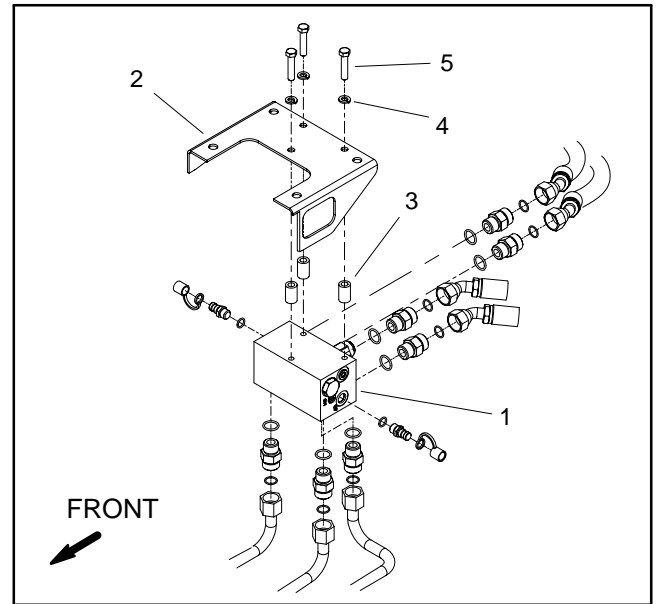

Figure 10
7. To allow removal of the rear axle pivot pin, remove the three (3) cap screws, lock washers and spacers that secure CrossTrax™ AWD control manifold to frame (Fig. 10). Lower and support manifold taking care to not damage hydraulic tubes.
8. Remove the jam nut (item 10) and thrust washer (item 9) that secure the axle pivot pin (item 6) to the frame.
10. Pull the axle pivot pin from frame and rear axle. This will release the rear axle and thrust washers (item 7) from the frame.
1. Position the rear axle assembly to the frame. Install thrust washer (item 7) between each side of axle and frame. Slide pivot pin through frame, thrust washers and axle. Make sure that roll pin on pivot pin is positioned in frame reliefs.
2. Install thrust washer (item 9) and jam nut (item 10) onto pivot pin. Torque jam nut (item 10) from **90 to 120 ft-lb (123 to 162 N-m)**. Make sure that rear axle can still pivot freely after jam nut is tightened.
3. Raise the CrossTrax™ AWD control manifold to the frame. Position spacers between manifold and frame (Fig. 10). Secure manifold to frame with three (3) cap screws and lock washers.